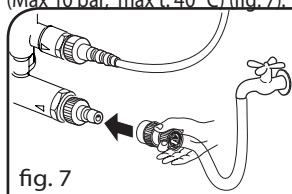

fig. 7
3. Connect garden hose to unit's water inlet (Max 10 bar, max t. 40° C) (fig. 7).